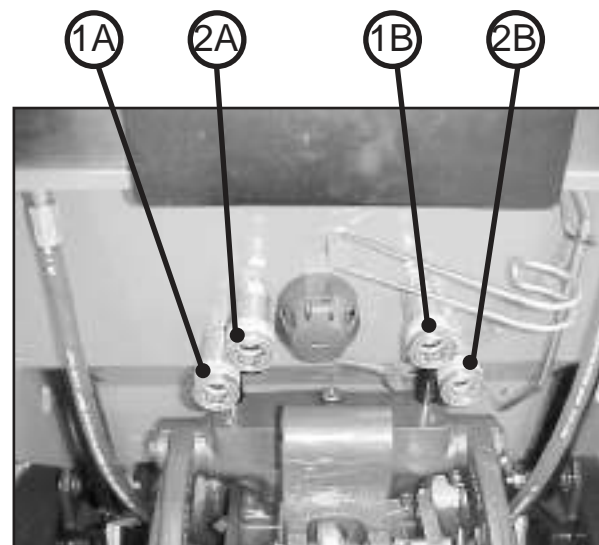

Fig. 34
To unlock the control levers (23) pull the safety device (24) upwards, set the lever in A or B position to send oil under pressure to one of the two rear outlets (Fig. 34). When the lever is released, it returns to the centre position and locks the implement in the required position.
The lever (23 A, Fig. 23) send pressure to the connections (1^a and 2^a, Fig. 34) and the lever (23 B) to the connections (1B and 2B).
In simple-effect operations, the connections used are 1A and 1B (Fig. 34).